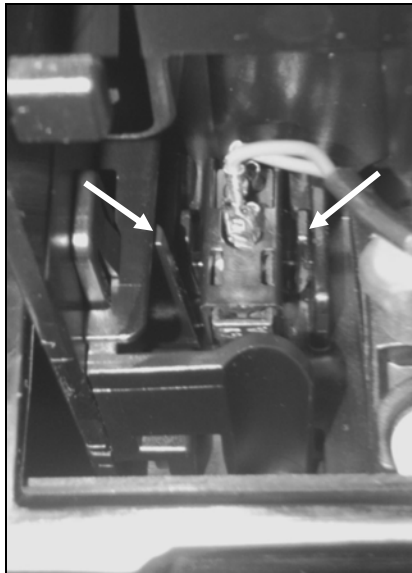

Figure 001-55: Cup Protection Switch
7. Using a small flathead screwdriver, press in on the retaining tabs on the sides of the cup protection switch (arrows, Figure 001-55) and release the switch from its holder.